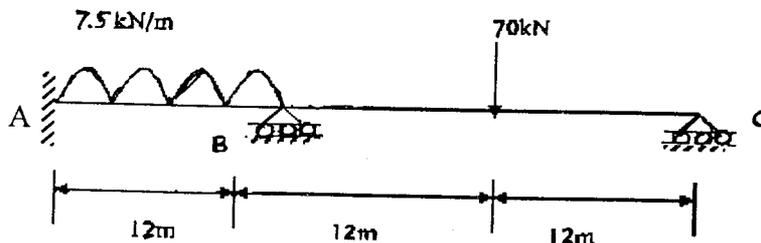

Fig. 14(a)
- (a) Analyse the continuous beam shown in figure 14(a) by slope deflection method and draw the SFD and BMD, EI is constant.